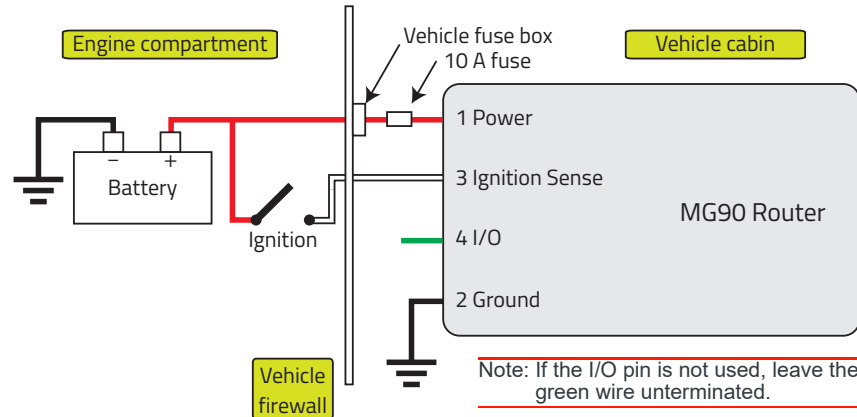

Figure 2-10: Recommended Vehicle Installation
6. Use a 10 A, fast blow fuse, recommended to have no more than $\pm 10\%$ de-rating over the operating temperature range, to connect the red (power) wire on the DC power cable to the vehicle's fuse box. (See Figure 2-10.)
For most vehicle installations, Sierra Wireless recommends connecting the white Ignition Sense wire to the vehicle's ignition switch, as shown in Figure 2-10.